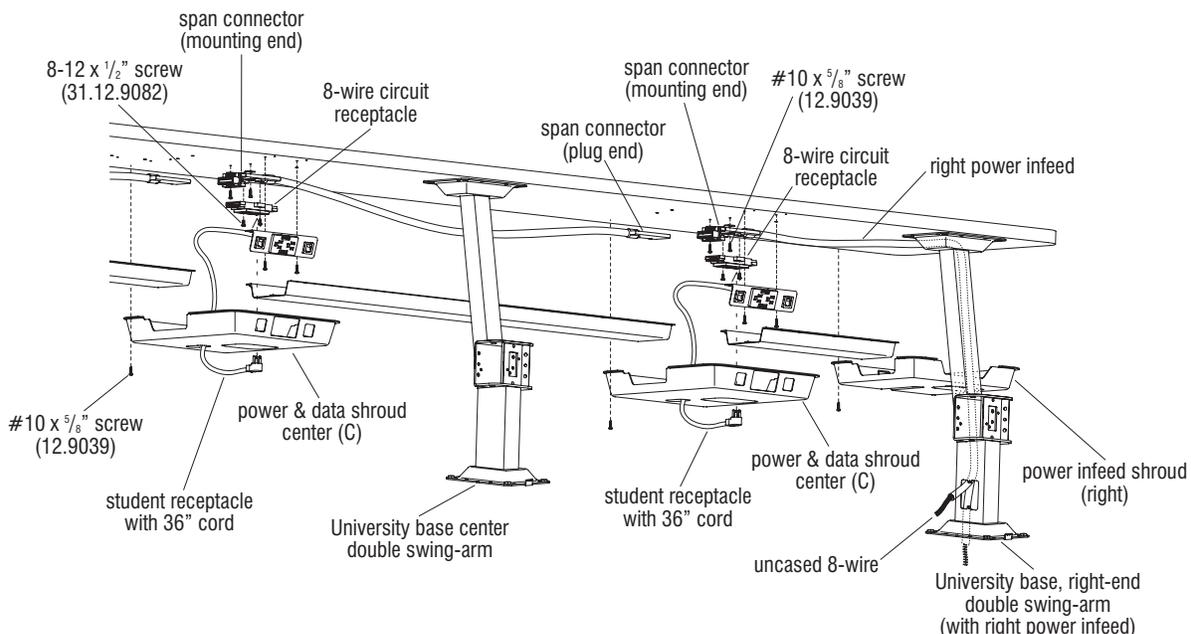

Figure 15 - Right Power Infeed with Single Swing-arm Ends (Power Infeed Detail)
46. At the underside of the University table top, locate the pre-drilled mounting holes, about midway between the two right-most University bases, near the power-infeed location (Figure 15 & Detail A). As illustrated, secure the mounting end of the right power infeed to the underside of the table top with two #10 x 5/8" screws torqued to 25 in/lbs at the appropriate pre-drilled holes (Figure 15, Details A & B).
space-planning layout, continue down the line installing all remaining span connector mounting ends to the table top between bases and clicking the plug ends into the appropriate mounting ends (Figures 15 & 16, Detail B).
48. Follow correct circuit designations and install 8-wire circuit receptacles to the mounting end of the power infeed and all span connectors using two #8-32 x 1/2" screws provided torqued to 20 in/lbs (Figures 15 & 16, Detail B).
50. Locate the mounting holes for the data/receptacle bracket (Details A & B). Install the data/receptacle bracket to the underside of the table top with two #10 x 5/8" screws torqued to 25 in/lbs (Figures 15 & 16).
Data line infeeds may be run up a University base in a different location than power infeed, but will use a power infeed shroud the same as in power infeed locations (Figures 15 & 16). From behind the data/receptacle bracket, snap the appropriate data lines into the data jack adapters.
52. Following the space-planning layout, install student receptacles by first routing the cord through the opening in the data/receptacle bracket, then snap the receptacle into place. Allow the 36" long receptacle cords to hang down until a later step (Figures 15 & 16).
**Note:** There are two types of power & data shrouds for right power infeed, single swing-arm end configurations which may be specified by the space-planning layout. Both of these shrouds have cut-outs facing the student side for the student receptacle and data jacks. **"Center (C) power & data shrouds"** have a cut-out at each side of the shroud for power/data troughs and two cut-outs at the bottom, one for the 8-wire circuit receptacle, and the other for routing the cord of the student receptacle(s) through, to
loop back and plug into the circuit receptacle. **"Left (L) power & data shrouds"** have both cut-outs at the bottom and only one cut-out at the right-hand side for power/data trough (Figures 15 & 16).
54. Following the space-planning layout, locate the correct position for the two types of power & data shrouds along the run of table tops. Position each shroud up to the table top and allow the cord of the student receptacle to drop down through the front-most cut-out as illustrated. Both the student receptacle and data jacks, as well as the bottom-facing circuit receptacle should protrude through their appropriate cut-outs in the shroud. Secure all power and data shrouds to the underside of the table top using #10 x 5/8" screws torqued to 25 in/lbs in pre-drilled holes at the underside of the table top (Figures 15 & 16, Details B & C).
55. At the power & data shroud locations, loop the hanging cord and insert the plug end of the student receptacle into the bottom-facing circuit receptacle. Push any excess cord back into the shroud and out of the way (Figures 15 & 16).
56. At the power infeed location, position the power infeed shroud (right-end, with cut-outs on only the left side for power/data troughs) up into position, making sure the troughs fit into it correctly and that the shroud back mates correctly with the base's upper mounting flange. With a pencil, mark the mounting hole locations, then use a 1/8" diameter drill bit and pre-drill to 1/2" depth, taking care to not penetrate the table top. Install power infeed shroud using #10 x 5/8" screws provided torqued to 25 in/lbs (Figures 15 & 16).